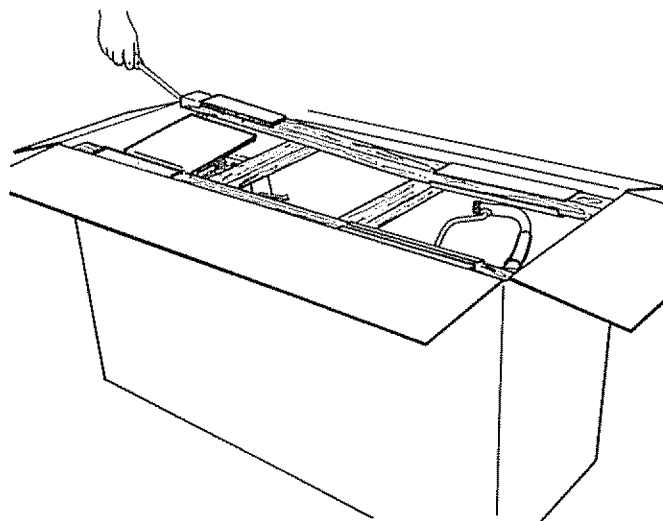

FIGURE 4
- With a screwdriver, pry Top Wood Frame loose at all four corners (Fig. 4).